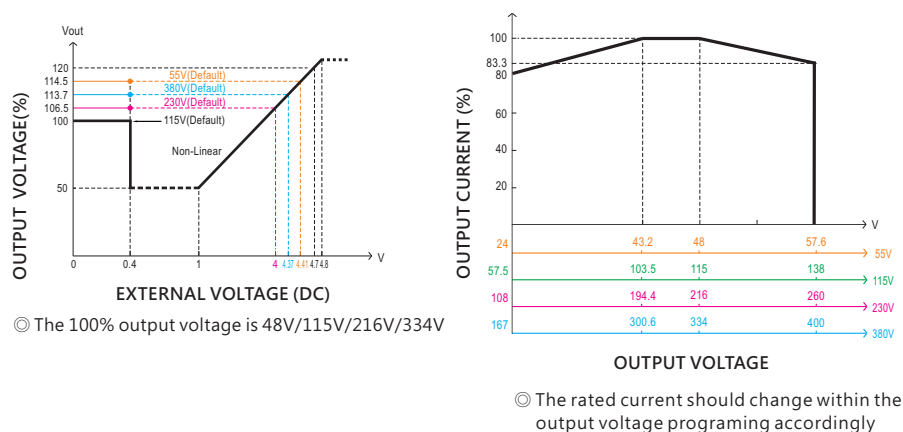

Figure 5-3
2. Relationship between output voltage and external DC source is shown in Figure 5-3.